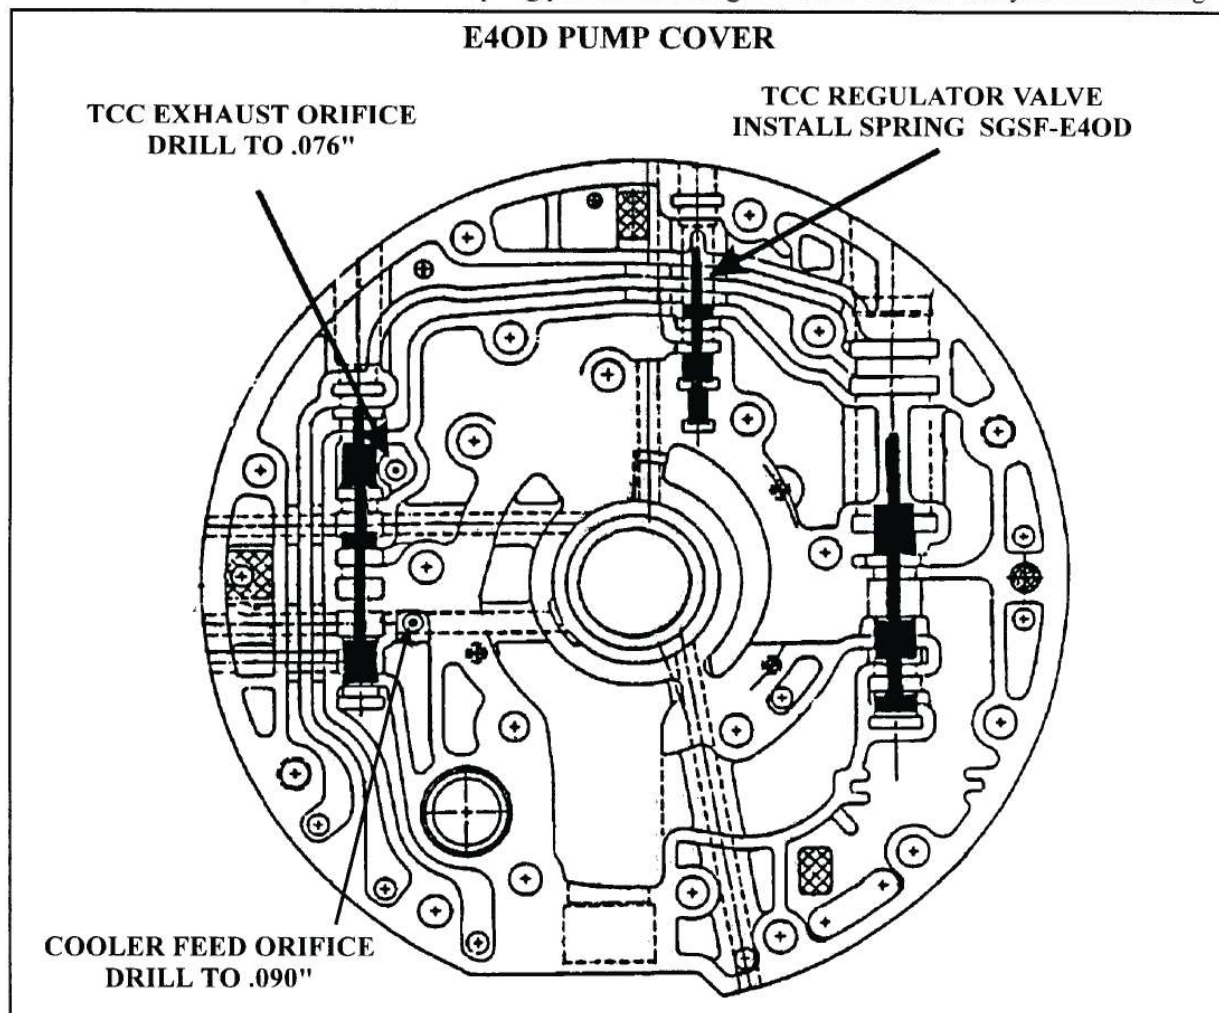

Figure 33
**CORRECTION:** Replace the converter clutch regulator valve spring, located in the pump cover with a "SGSF E4OD" shudder fix spring as shown in Figure 33. Also drill the converter clutch exhaust orifice out to .076", as shown in Figure 33. It is also recommended to drill out the cooler orifice to .090" for increased lube flow, as shown in Figure 33.